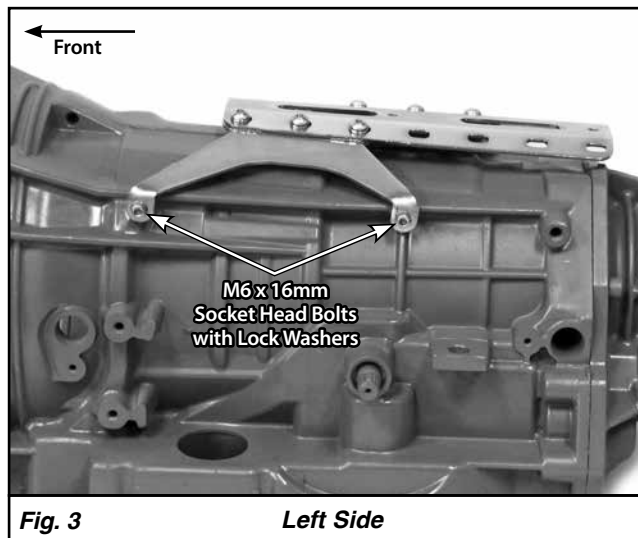
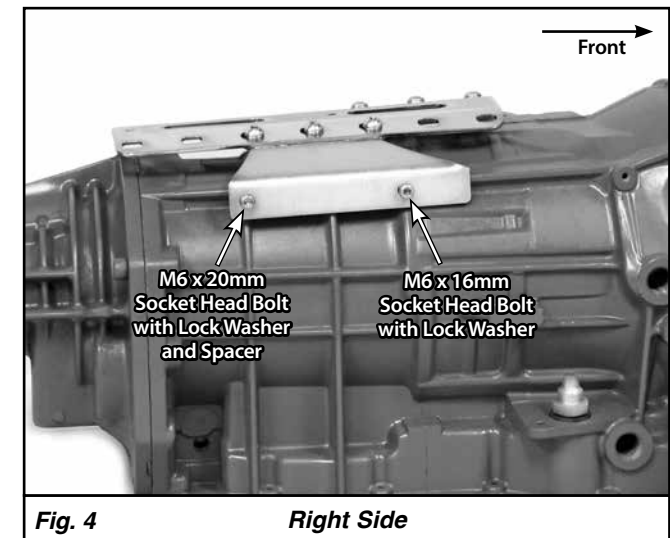

Fig. 3
Fig. 4
Step 3: Position the bracket assembly on the transmission. Both the left and right side brackets bolt into existing threaded holes in the transmission case. Install an M6 x 16mm socket head bolt with lock washer into both of the mounting holes in the left bracket, and into the front mounting hole in the right side bracket, but do not tighten any of them yet. **Fig. 3 & Fig. 4**
Step 4: Insert the provided spacer into the gap between the transmission case and the rear corner of the right side bracket, and install the M6 x 20mm socket head bolt with lock washer in that location. **Fig. 4**